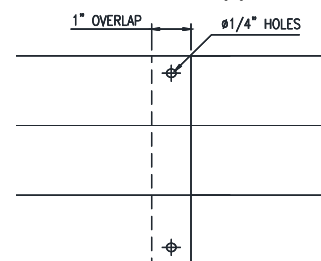

Fig. 12 – Hose Covers
- 31) After control console and center hose cover are positioned, drill (4) 1/4" holes in the corners and install supplied drive anchors.
- 32) For hose covers between control console and the lift structure, overlap sections approx 1" and drill (2) 1/4" holes thru each connection as shown in **Fig. 12**. Total length of hose covers is approx 4 meters.